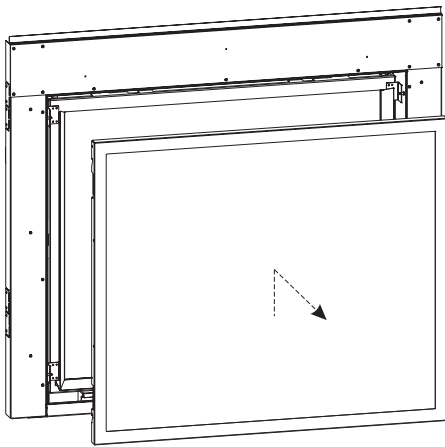

Figure 84
2. Use the Glass Latch Tool to grip the latch bar and pry it over the Glass Frame hook flanges. Tilt the Glass Frame towards you and pull upwards to remove it from the unit. **(See Figures 84 and 85)**